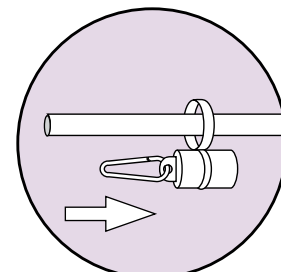

Fig 4.
4. Place the weight over the main pole. (see fig 4)